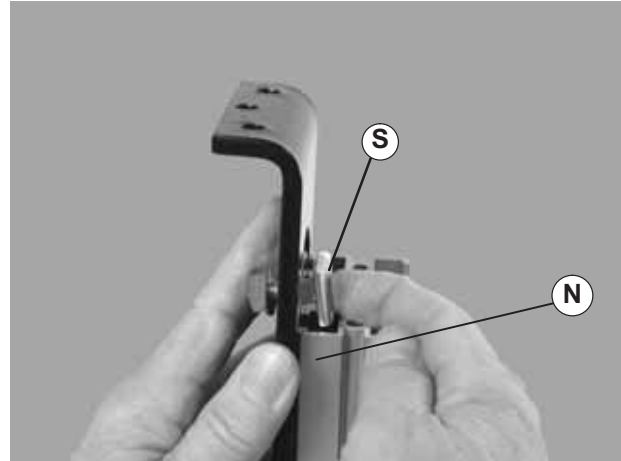

Figure 7
9. Align nuts (Figure 7, item S) with inside t-slots on leg assembly (N). Slide nut into t-slot.